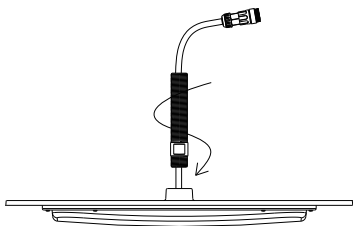

Figure 1
1. Screw the aluminum pipe into the heatsink. (Figure 1)